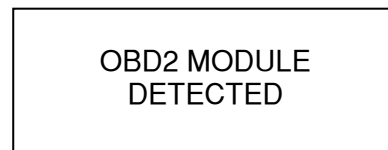

Fig. 6
- If the OBD2 module is plugged into the tool, the message as in **Fig. 6** will be displayed.